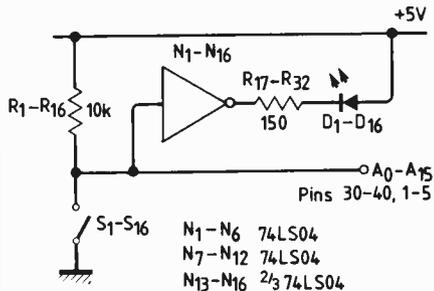
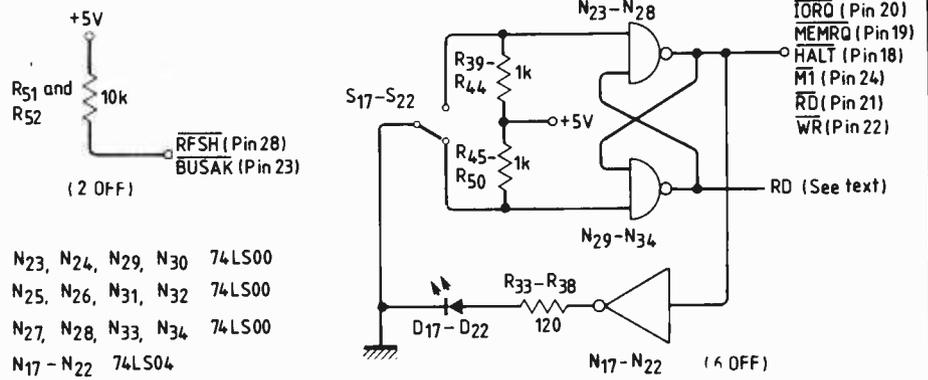

Fig. 1
Fig. 2
**Fig. 1.** Microprocessor-based sampling frequency meter. If the number of pulses counted in the ten-second measuring interval is greater than 65,535 "HI -----" is displayed. The i.c. to the left of the display (not included in the circuit diagram) is a small test oscillator, feeding pulses to the input of the circuit.
number as in Fig. 1, or a cycle is initiated where the contents of the 21 channels are displayed one-at-a-time, each for a period of six seconds, starting with channel 0 and ending with the over-range extension channel. If the key is held down each display period drops to 0.75s for more rapid scanning of the distribution. Because the number accumulated in each channel can become large over an extended sampling period, the channel contents are displayed with a resolution of five digits, together with an arrowed annunciator that is the power of ten by which the reading should be multiplied. It is kept the same for all channels, effectively normalizing the distribution to its peak value. Channel number is always displayed simultaneously with the contents of that channel, as in Fig. 2. If the 'channel' key is held down immediately after pressing the 'maximum' key, then the 20-channel delimiter values are reviewed in a manner similar to that for the channel contents. When either sequence terminates, control is passed back to the normal sampling routine, which continues as before.
Although wire links could be used on the component side of the printed circuit board, as in the instrument shown in Figs 1 and 2, a double-sided board greatly simplifies construction, and foil patterns for both sides of the board are avoidable (see below), and together with a component overlay assembly is straightforward. As in Figs 1 and 2, the display part of the board can be separated from the processor board to produce a more compact instrument. In this case the 11-way ribbon cable connecting it to the processor board should not exceed 30cm in length. For improved immunity to electrical interference (e.g. from lightning) the p.c.b. should be mounted close to a conducting surface, itself connected to the circuit common line.
The circuit is shown in Figs 1 to 4 and each group of pins is described separately below. The Z80 pin connections are summarized in the Table.
**Address lines.** There are 16 address lines,  $A_0$  to  $A_{15}$ , connected to pins 30-40 & 1-5 (Fig. 1). These lines are output only and always active. They are held at logic 1 by a mild pull-up resistor (10k $\Omega$ ) and switched to logic 0 by shorting to 0V. Red l.e.ds indicate the state of each line and any shorted to 0V can quickly be detected. For processors with multiplexed address and data lines, tri-state buffers would be needed for the address lines, enabled by the appropriate control signal ( $\overline{ALE}$ ).
Each of 16 address-line drive circuits, Fig. 1, provides a logical 0 or 1 on the address pins. Inverters (N1 to N16) drive i.e.s to monitor logic levels (on=1), enabling lines shorted to ground to be easily noticed. In the control and status output-line drive circuits, Fig. 2, RFSH and BUSAK signals are not implemented, hence their pins are held high by pull-up resistors. The other control signals are generated by switches (S17 to S22) debounced by an SR flip-flop. Inverters N17 to N22 drive i.e.s to monitor logic levels (on=0). In the indicator circuits, Fig. 3, INT, NMI and RESET lines are monitored by i.e.s driven by inverters (on=0). WAIT line is monitored by monostable circuit and hence pulses are stretched and displayed by D23. In data-line drive and indicator circuits, Fig. 4, input is performed by octal latch IC10 clocked by inverted RD signal.